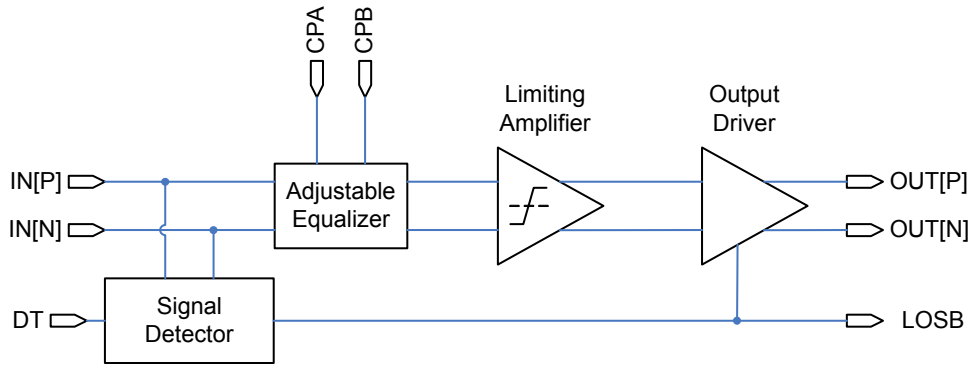

FIGURE 4. FUNCTIONAL BLOCK DIAGRAM OF THE ISL36111
The ISL36111 is an advanced lane-extender for high-speed interconnects. A functional diagram of ISL36111 is shown in Figure 4. In addition to a robust equalization filter to compensate for channel loss and restore signal fidelity, the ISL36111 contains unique integrated features to preserve special signaling protocols typically broken by other equalizers. The signal detect function is used to mute the channel output when the input signal falls below the level determined by the Detection Threshold (DT) pin voltage. This function is intended to preserve periods of line silence (“DC idle”). Furthermore, the output of the Signal Detect/DT comparator is used as a loss of signal (LOSB) indicator to indicate the absence of a received signal.
As illustrated in Figure 4, the core of the high-speed signal path in the ISL36111 is a sophisticated equalizer followed by a limiting amplifier. The equalizer compensates for skin loss, dielectric loss, and impedance discontinuities in the transmission channel. The equalizer is followed by a limiting amplification stage that provides a clean output signal with full amplitude swing and fast rise-fall times for reliable signal decoding in a subsequent receiver.